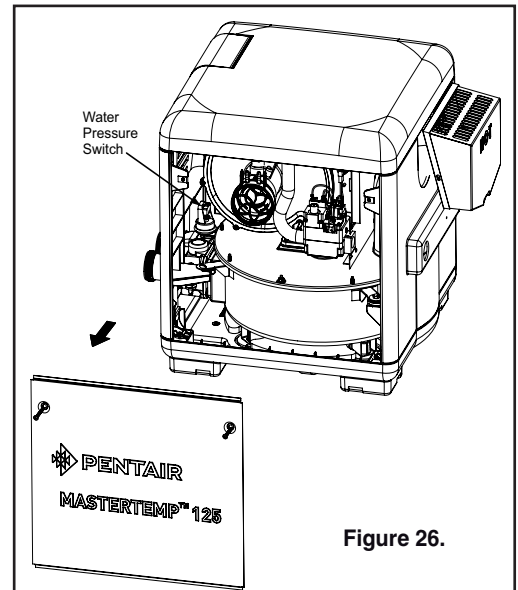

Figure 26.
5. Remove the access door panels by unfastening the two (2) screws located on each door, then lift up and out from the bottom of the panel to remove. If necessary, the screws may be used as handles, see Figure 26.
3. Remove the access door panels, see Figure 26.